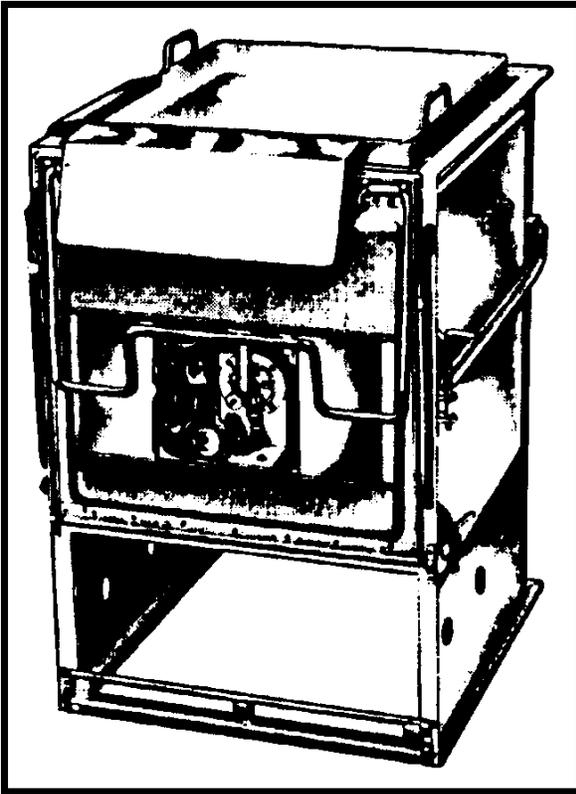

Figure 2-7. M59 Field Range set up for grilling.
d. Position the M2 burner unit and the baking and roasting pan cover for grill cooking. (See Figure 2-7.)
- (1) Place the baking and roasting pan cover upside down onto the griddle supports.
- (2) Place the M2 burner unit in the top position.
- (3) Close the front door of the range cabinet, and open the slide shutters.
- (4) Fit the long arm protector over the front edge of the griddle and cabinet. Fit the short arm protector over the side edge of the griddle and cabinet where you are working.